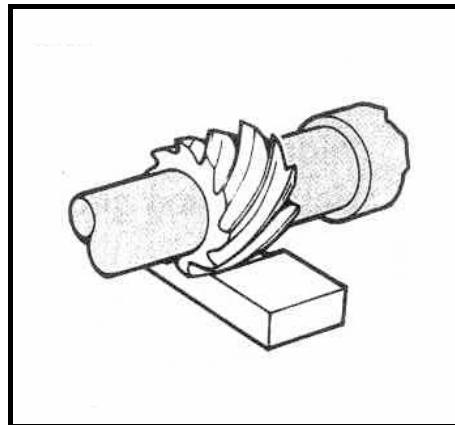

FIGURE 1.2
- D is used to manufacture bicycle frames. (1)
1.7 Identify the type of milling cutter shown in FIGURE 1.2 below.